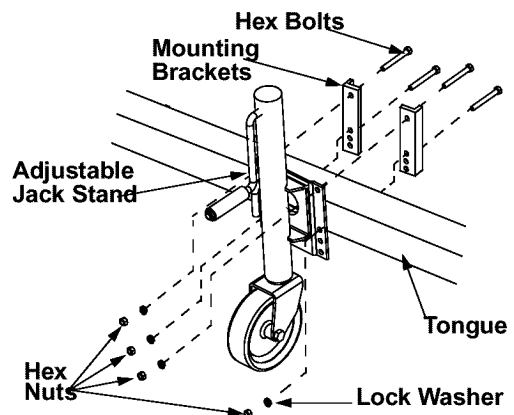

Figure 3
- Remove four hex bolts, lock washers, and hex nuts that secure jack stand mounting brackets to adjustable jack stand. See Figure 3.
- Insert hex bolts through top holes in jack stand mounting brackets and holes in the adjustable jack stand. Secure with lock washers and hex nuts. See Figure 3.